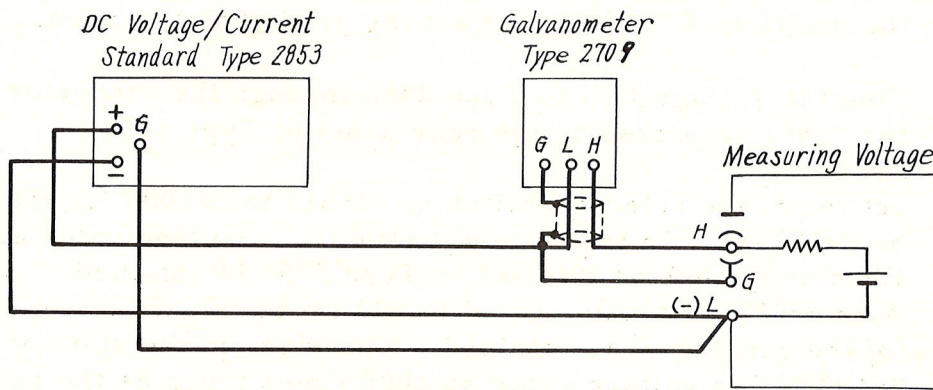

Fig. 2.3 Precise measuring circuit for DC voltage
- (1) Connect the grounded-side terminal of the measuring voltage source to the OUTPUT terminal of Type 2853 so that both terminal polarities may be coincided with each other.
- (2) Connect the rest of terminals to each other through the galvanometer. In this case, both the guard-side terminal and the guard terminal of the galvanometer are to be connected to the side of Type 2853.
- (3) When the source under test has the guard terminal, connect it to the guard terminal of the galvanometer. (Refer to Fig. 2.3)
- (4) Set the output voltage of Type 2853 to a predicted value of the measuring voltage.
- (5) Adjust the set voltage to establish no deflection on the galvanometer. When the balance is secured, read-out the set value.
- (1) Connect the circuit according to the procedures described in 2.7.1 (1) ~ (4), substituting the galvanometer with the voltmeter or the recorder. (Refer to Fig. 2.3)
- (2) Adjust the set voltage so that the balance may be obtained. If once the balance is secured, only the variation of the measuring voltage is expanded and indicated on the voltmeter or the recorder.
- (3) Thus, the value of the measuring voltage is given by the sum of the value set with Type 2853 and the value indicated on the voltmeter.
- (1) Connect the circuit as in Fig. 2.3.
- (2) Change-over the range selector switch to "x 1V", and set the dial to 1.0000 (V). (When the range is calibrated by the use of standard cell, the dial should be set to 1.0186 (V).)
- (3) Adjust  $RV_{101}$  of the reference voltage circuit of Type 2853 so that the galvanometer will indicate zero when the voltage generated by the reference voltage generator is 1.0000 (V)  $\pm 0.02\%$ .
- (4) In case the standard cell is used for the calibration, be careful so as not to flow any over current through the cell. Otherwise, the standard cell may be damaged.